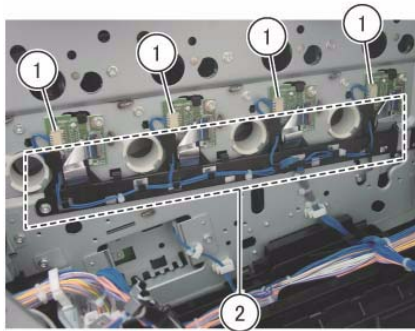

Figure 2 Release the wire harness
8. Release the wire harness from the Harness Holder. (Figure 2)